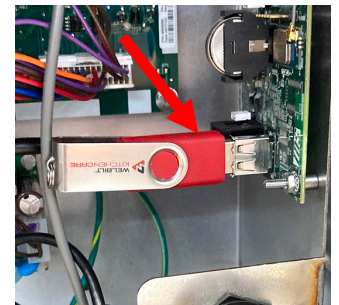

Figure 12
16. Insert USB drive with **CONFIG.INI** files into the KCCM extension port (see Figure 12). Wait about five (5) minutes for files to load.